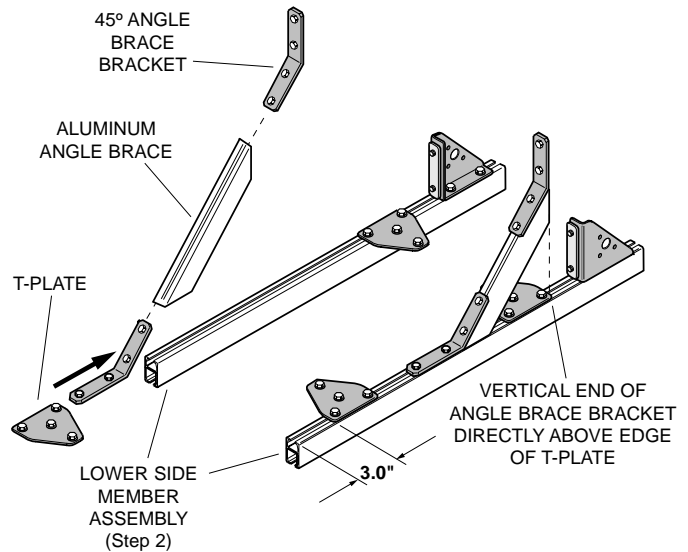

Figure 4.
4. Locate two 45° aluminum angle braces and four 45° angle brace brackets. Assemble angle brace brackets to 45° aluminum angle braces. Orient angle brace brackets as shown and slide into position on lower frame members (Fig. 4). Finger tighten angle brace brackets at this time. Secure second set of T-plates to lower side members.